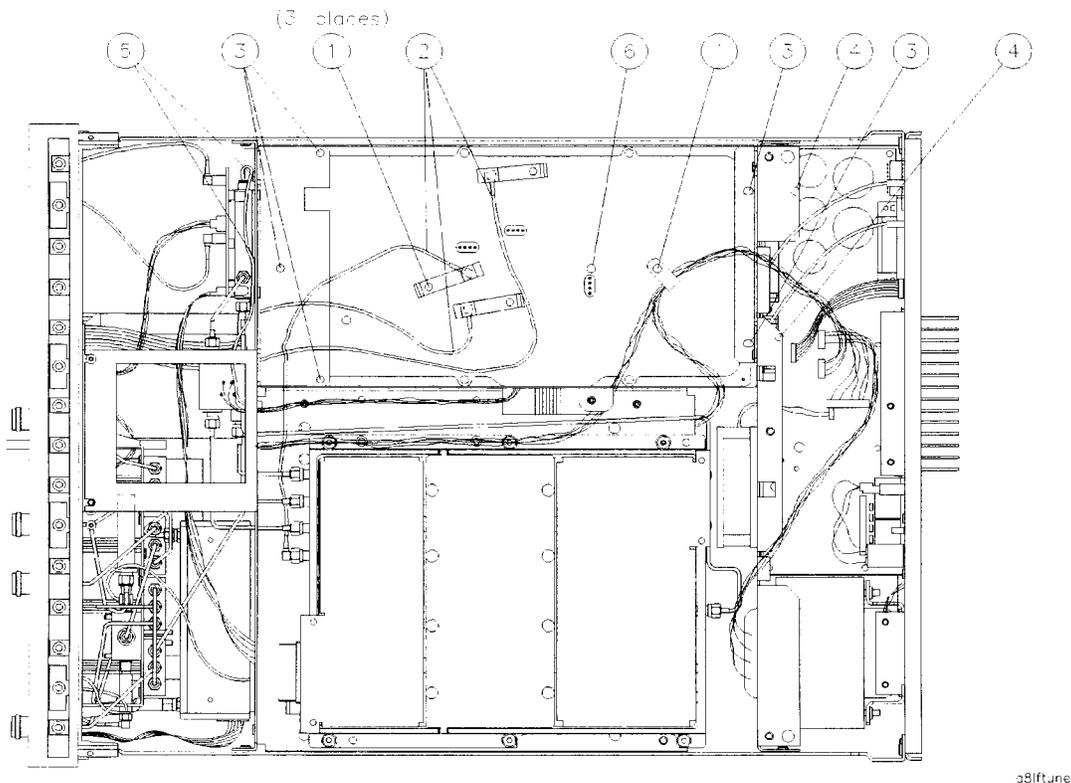

Figure 4-18 A8 LF Tuneable Filters Replacement
3. Remove the four screws from the clips that secure the cables to the cover plate (1). Refer to Figure 4-18.
4. Disconnect the three cables J2, J3, and J4 from the cover plate (2).
5. Remove the five screws, three from one end plate and two from the other end plate (3).
6. Remove the two screws from the rear-panel assembly (4).
7. Remove the two screws from the front strut (5).
8. Remove the eight screws from the cover plate and remove the cover plate (6).
3. Replace the eight screws on the cover plate (6). Refer to Figure 4-18 on page 4-36.
4. Replace the two screws from the front strut (5).
5. Replace the two screws from the rear-panel assembly (4).
6. Replace the five screws on the end plates, three on one end plate and two on the other end plate (3).
7. Connect the three cables J2, J3, and J4 on the cover plate (2).
8. Replace the four screws on the clips that secure the cables to the cover plate (1).